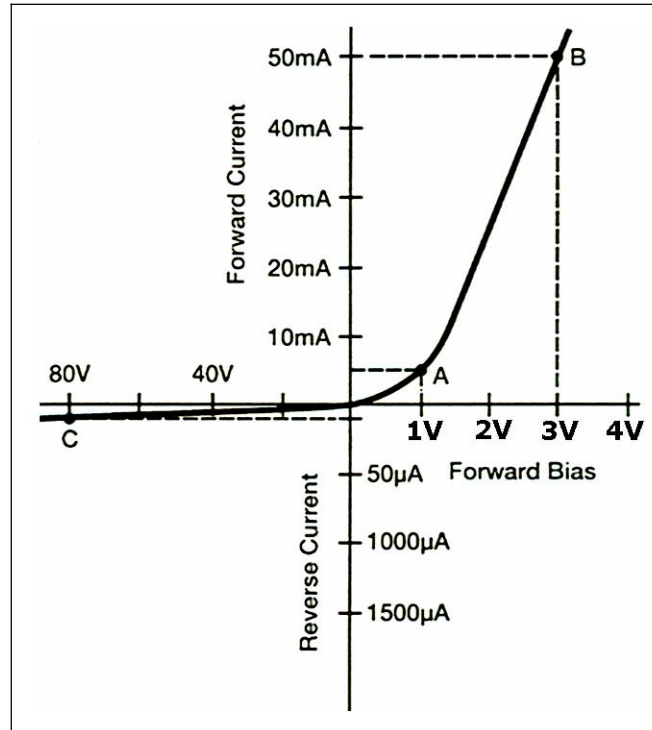

Figure 1-20. PN Junction Diode Characteristic Curve
1-76. The most important point to remember about the PN junction diode is its ability to offer very little resistance to current flow in the forward-bias direction but maximum resistance to current flow when reverse biased. A good way to illustrate this point is by plotting a graph of the applied voltage versus the measured current. Figure 1-20 shows a plot of this voltage-current relationship (characteristic curve) for a typical PN junction diode.
1-77. We can use Ohm's law to determine the resistance from the curve (see Figure 1-20). Ohm's law is as follows:
- A characteristic curve similar to the one in Figure 1-20 (showing how parameters vary over the full operating range).